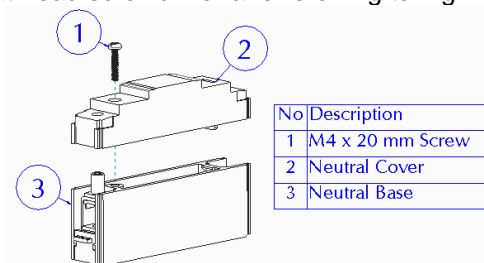

Fig. 1
2. Remove the neutral assembly cover by using a flat head screwdriver and referring to Fig. 1.